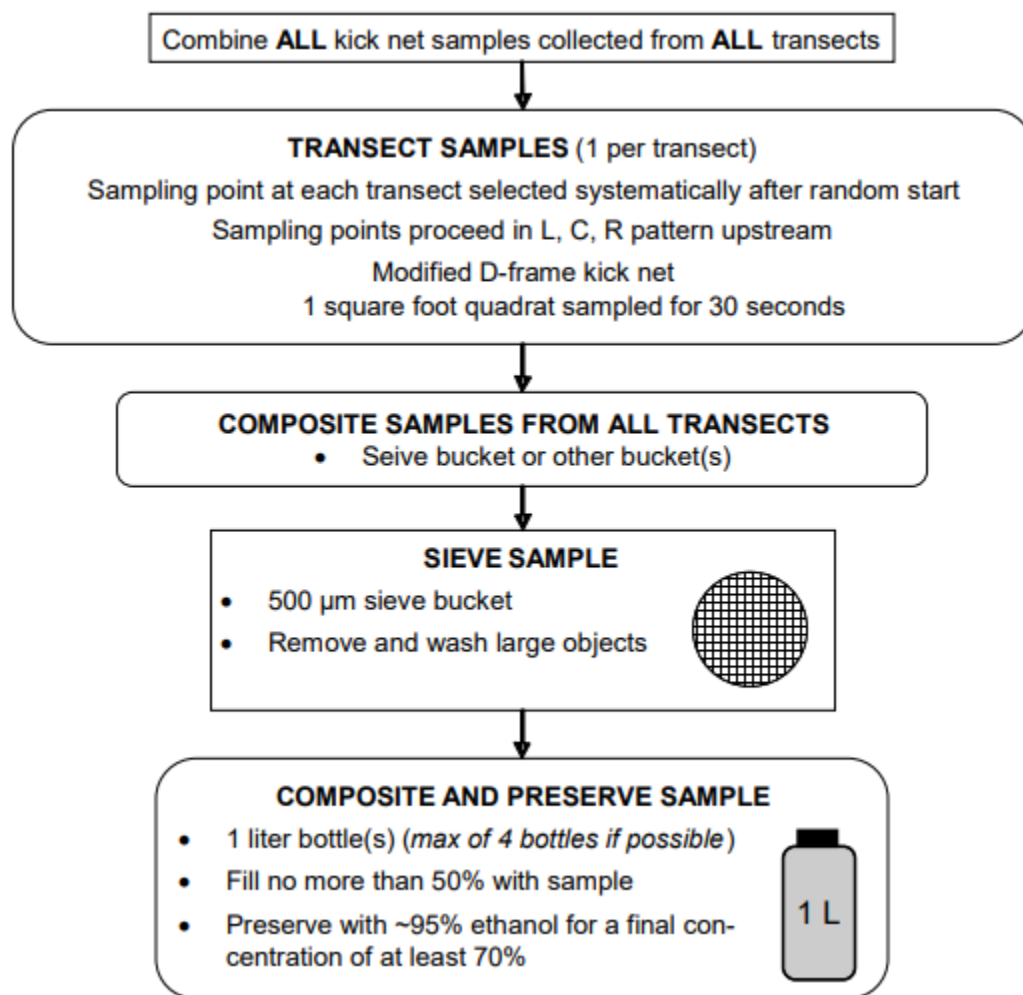

Figure 6. Sampling design for collecting benthic macroinvertebrates.
14. Thoroughly rinse the net before proceeding to the next sampling station. Proceed upstream to the next transect and repeat steps 1 - 13. Make sure to follow the left, center, right pattern to determine which area along the transect to collect the sample (Figure 6). Combine all kick net samples from riffle/run and pool/glide habitats into the bucket.